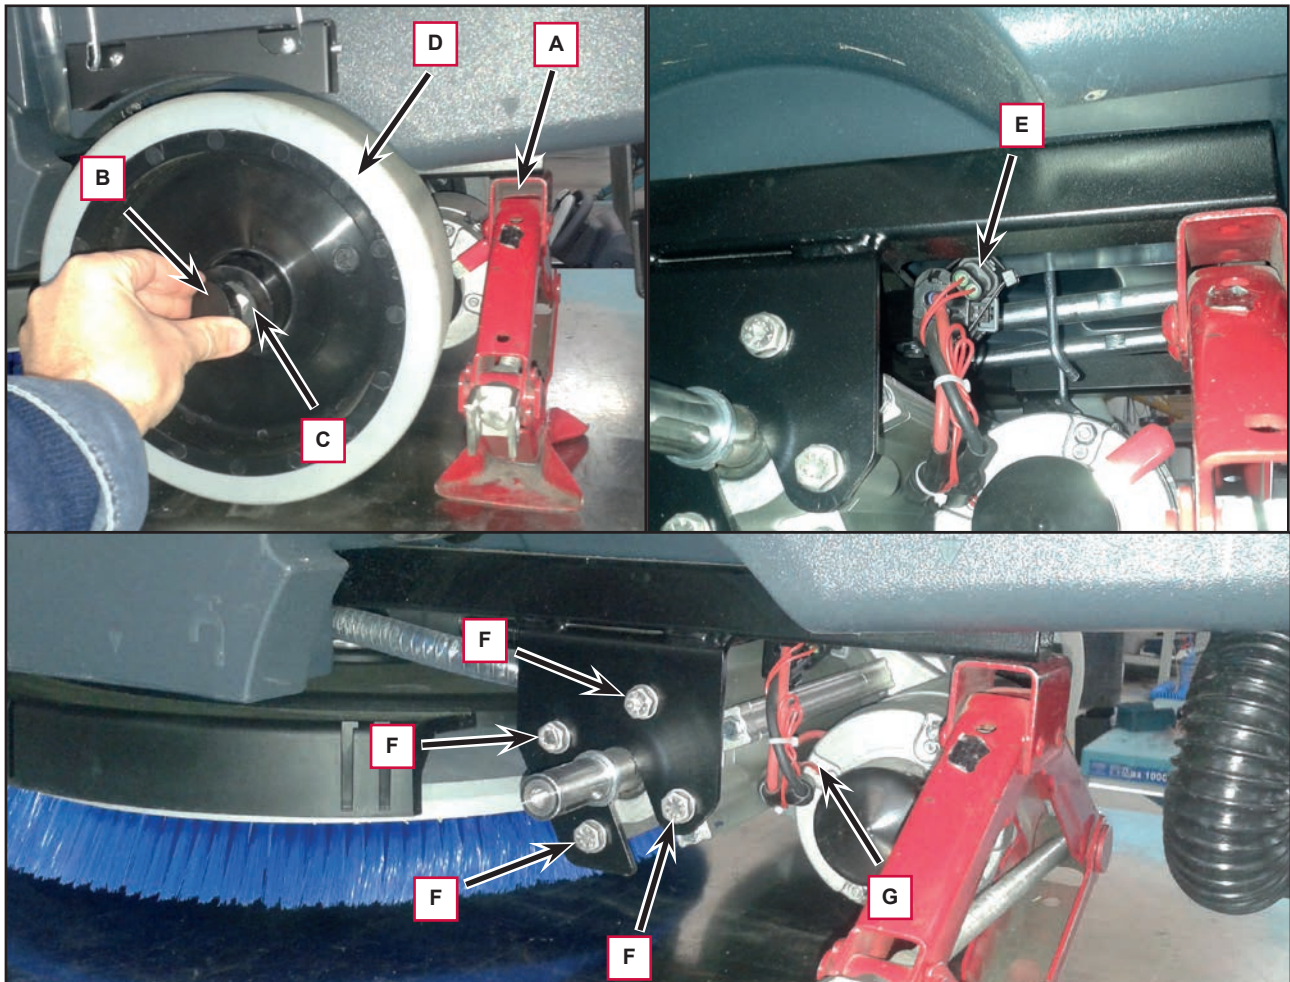

Figure 7
2. Place a suitable lifting device (A, Figure 7) to raise one side of the machine approximately 2 cm from the floor.
3. Remove the plug (B), remove the screw (C) and retrieve the washer.
4. Remove the wheel (D) and retrieve the key.
5. Disconnect the connection (E).
6. Remove the 4 screws (F) and retrieve the washer.
7. Repeat step 2 to 6 for the other wheel, then carefully disassemble the gearmotor (G) from the machine.